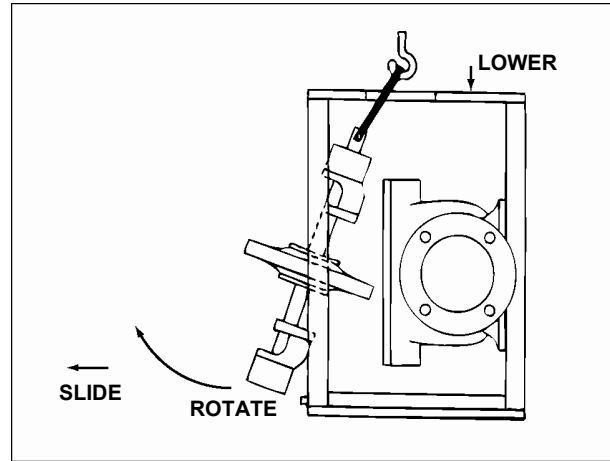

FIGURE 58 – LOWER ROTATING ELEMENT
on floor with shaft in an horizontal position (See Figure 58).
21. On full pedestals, the lifting sling must come through hole in top plate of pedestal (See Figure 58).